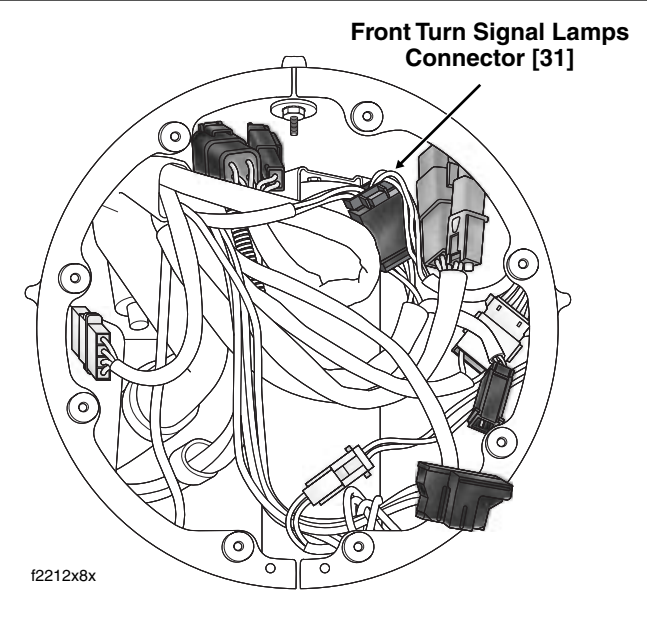

Figure 8-57. Headlamp Nacelle (FLHRC)
- FLHR/C:** Remove headlamp assembly. See Section 8.11 HEADLAMP (FLHR/C/S, FLHX, FLHT/C/U), HEADLAMP ASSEMBLY, REMOVAL. Disconnect the front turn signal lamps connector [31], 6-place Multilock, anchored in hole of fork stem nut lockplate (left side). See Figure 8-57.
FLHR/C: Install anchor on connector into hole of fork stem nut lockplate (left side). See Figure 8-57. Install headlamp assembly. See Section 8.11 HEADLAMP \(FLHR/C/S, FLHX, FLHT/C/U\), HEADLAMP ASSEMBLY, INSTALLATION.
2. Inside headlamp nacelle, locate the front turn signal lamps connector [31], 6-place Multilock, anchored in hole of fork stem nut lockplate (left side). See Figure 8-57.